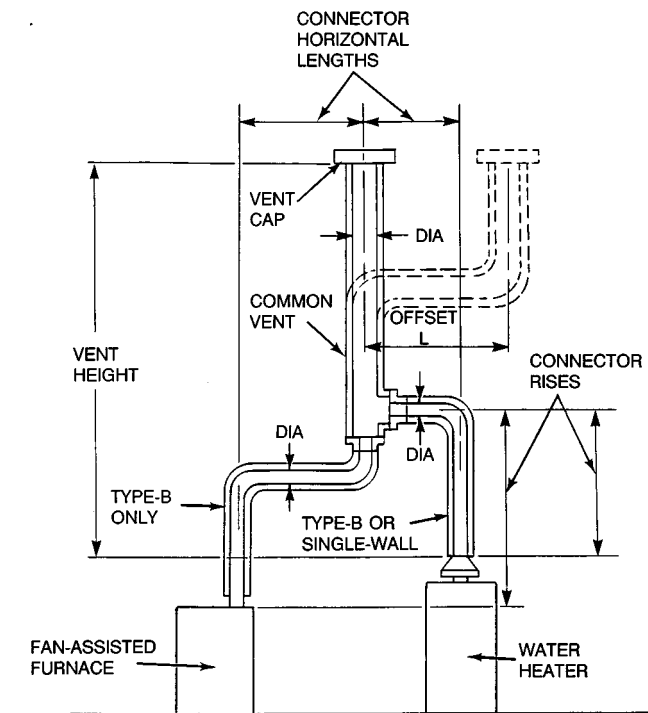

Fig. 1—Use With Tables 1 and 2
4. A vent or chimney may be offset as noted in the second table below and as shown in Fig. 1, 2, 6, 7, or 8.
NOTE: Use as shown in Fig. 1, 2, 5, 6, 7, and 8.